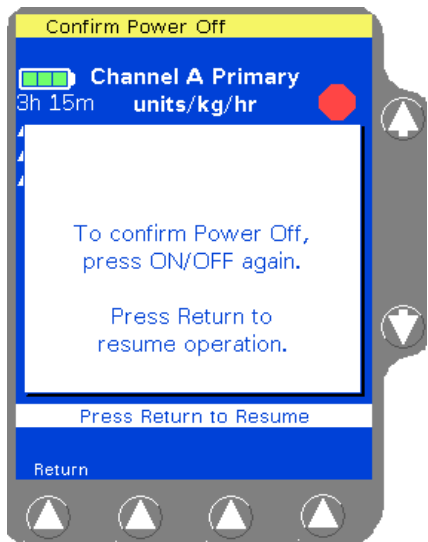

Figure 4-102 Standard Power Off Pop-up
1. Press the **ON/OFF CHARGE** key to power off the pump. A Power Off pop-up displays (Figure 4-102).